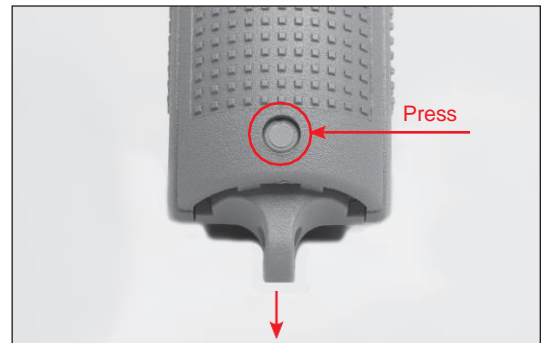

Fig. 128
- Remove the GLOCK Lanyard Clip with a 2,5mm (3/32 in.) Pin Punch by pressing on the end of the GLOCK Lanyard Clip through the hole in the frame. Then remove the GLOCK Lanyard Clip from the frame. (Fig. 128)